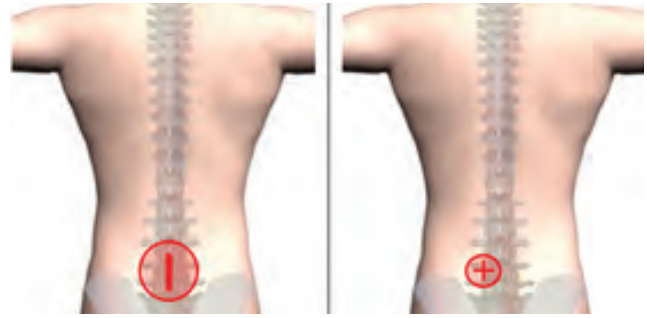

Figure 2
- Identify the affected level(s) using fluoroscopic imaging and palpation of the targeted anatomy (Figure 2). Access the operative site using preferred instruments. Tissues should be retracted enough to allow for exposure and visualization of the targeted disc space. Insert a marker into the disc(s) to confirm the correct operative level(s) using a lateral radiograph (Figure 3).